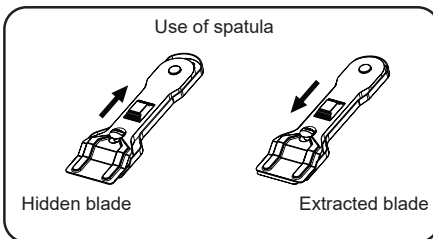

Fig. 2
**!** Once you are done with the spatula, retract the blade and lock it. (See Fig. 2)
### ЭЛЕМЕНТЫ УПРАВЛЕНИЯ (рис. 2)